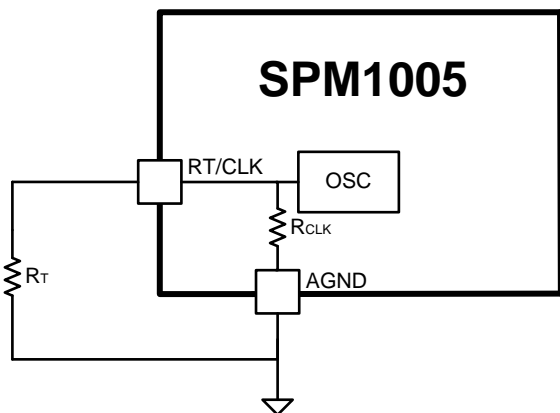
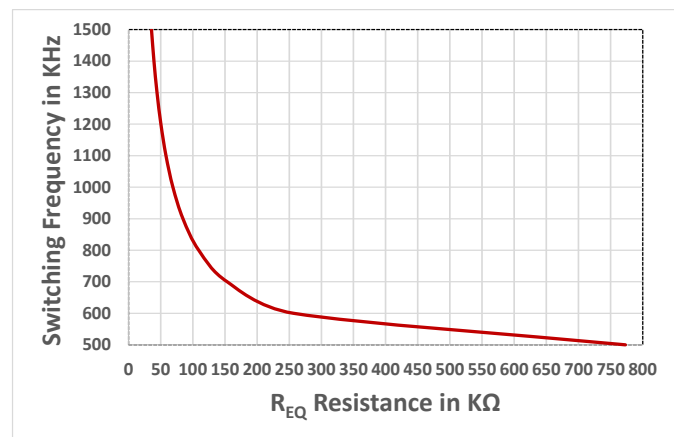

Fig. 37 Switching Frequency Adjustment
Fig. 38 Switching Frequency vs  $R_{EQ}$  for SPM1005-Z
The user can increase the switching frequency by adding an external resistor,  $R_T$ , between RT/CLK pin and AGND, as shown in Fig. 37, where  $R_T$  is calculated using Equation (9). The relationship between switching frequency and equivalent resistor ( $R_{EQ} = R_{CLK} || R_T$ ) is also shown in Fig. 38.